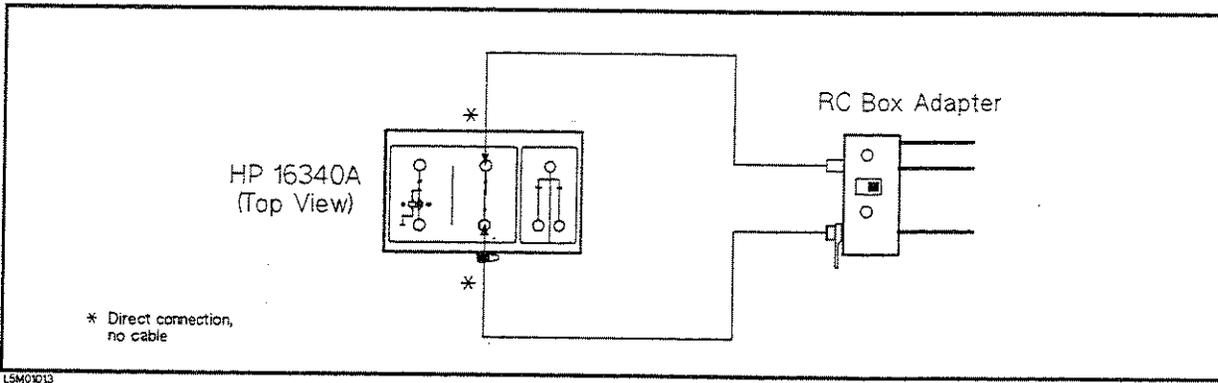

Figure 9-10. RC Box Connection (Grounded)
27. Connect the RC Box to the RC Box Adapter as shown in Figure 9-10.